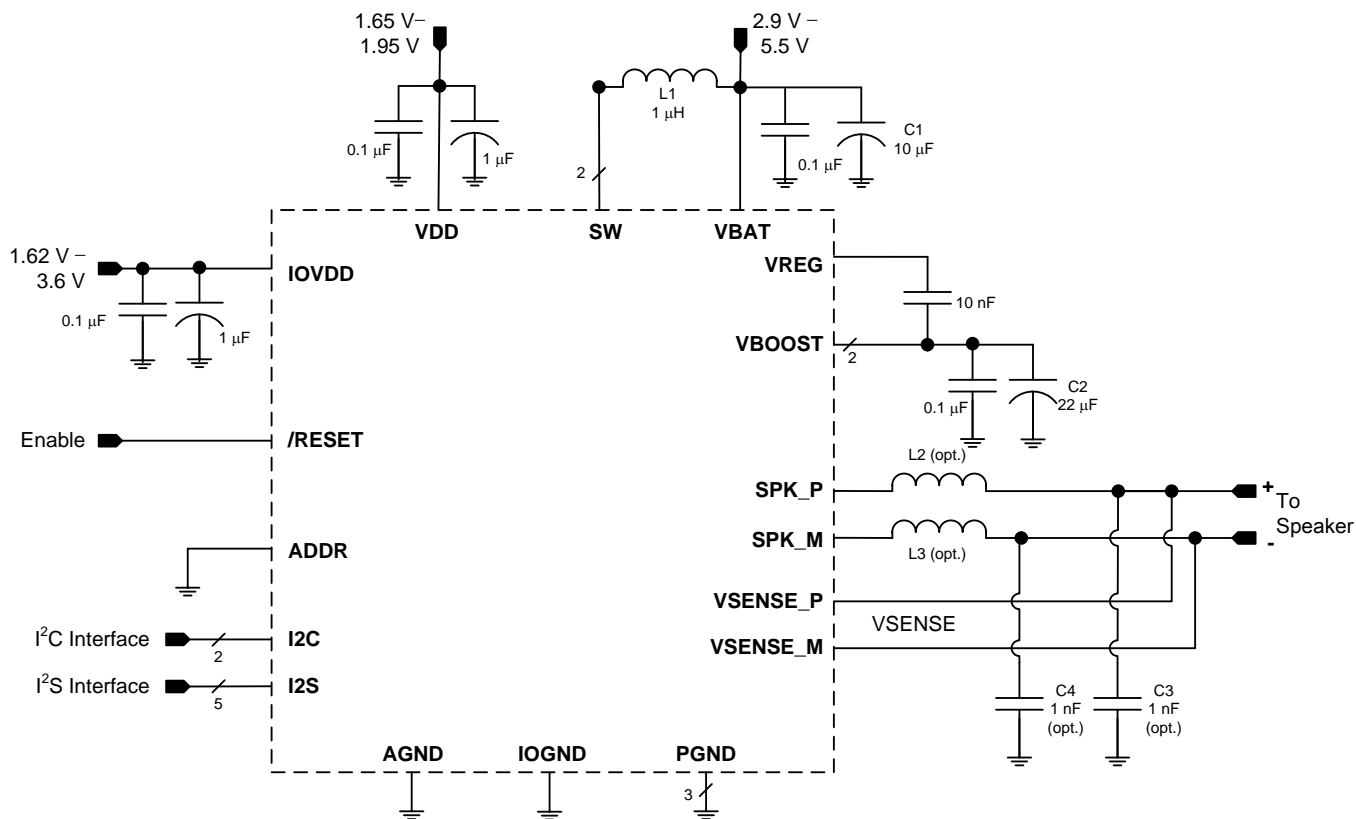

图 98. Typical Application - Digital Audio Input
The boost converter requires three passive devices that are labeled L1, C1 and C2 in 图 98 and whose specifications are provided in 表 101. These specifications are based on the design of the TAS2560 and are necessary to meet the performance targets of the device. In particular, L1 should not be allowed to enter in the current saturation region. The saturation current for L1 should be > ILIM to deliver Class-D peak power.
The TAS2560 supports edge-rate control to minimize EMI, but the system designer may want to include passive devices on the Class-D output devices. These passive devices that are labeled L2, L3, C3 and C4 in 图 98 and their recommended specifications are provided in 表 101. If C3 and C4 are used, they must be placed after L2 and L3 respectively to maintain the stability of the output stage.
- Use supply decoupling capacitors as shown in 图 98 and described in Power Supplies.